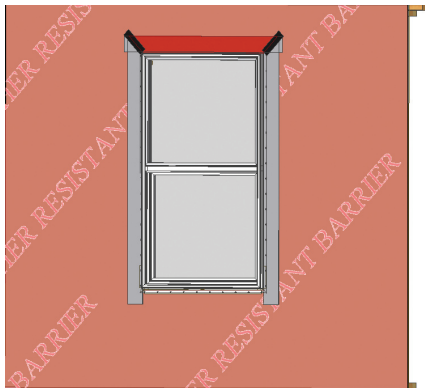

FIG. 15
- E) Tape the cut seams of the WRB. (Fig. 15)